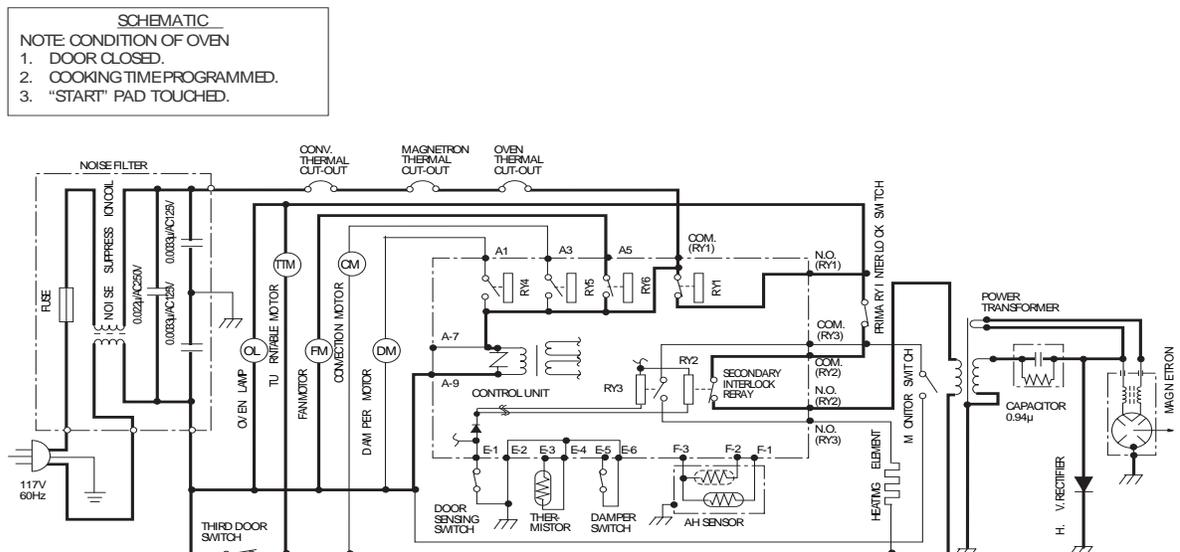

Figure 3-12. Oven Schematic, Cooking Condition
1. The contacts of relays are closed and components are turned on as follows (For details, see Figure 3-12):